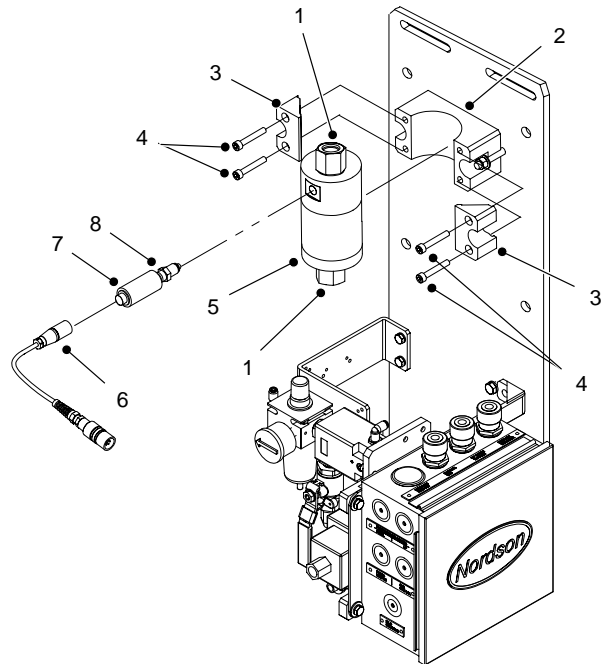

Figure 4 Typical Repairs
See Figure 4.
1. See Figure 4. Disconnect the cable (6) from the sensor (7).
2. Loosen the jam nut (8) and remove the sensor (7) from the helical flowmeter (5).
3. Screw the new sensor (7) into the helical flowmeter (5) until it bottoms out, then loosen it a  $\frac{1}{4}$  turn. Tighten the jam nut (8) securely.
4. Connect the cable (6) to the sensor (7).